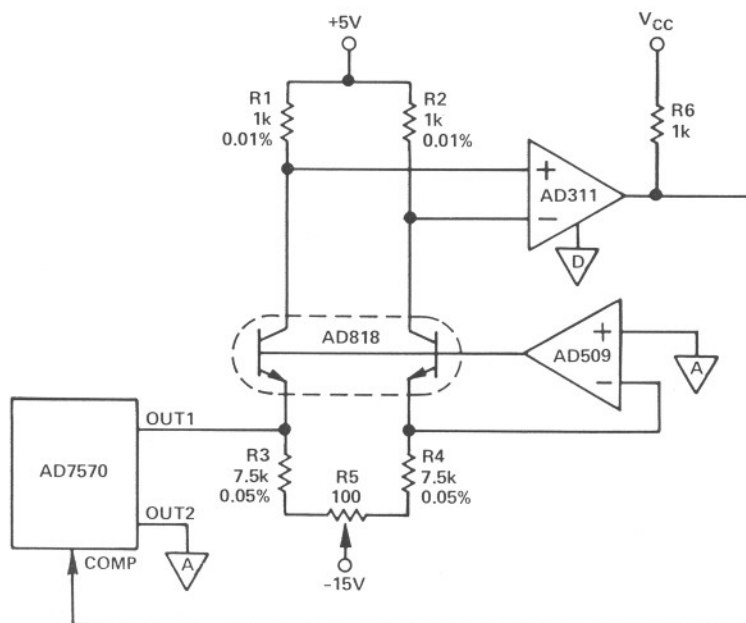

Figure 9. Current Comparator With Low Input Impedance
2. Use a zero input impedance comparator. Figure 9 illustrates a comparator circuit which has an input impedance of approximately 26Ω. Proper circuit layout will provide 10-bit accuracy for clock frequencies >500kHz.